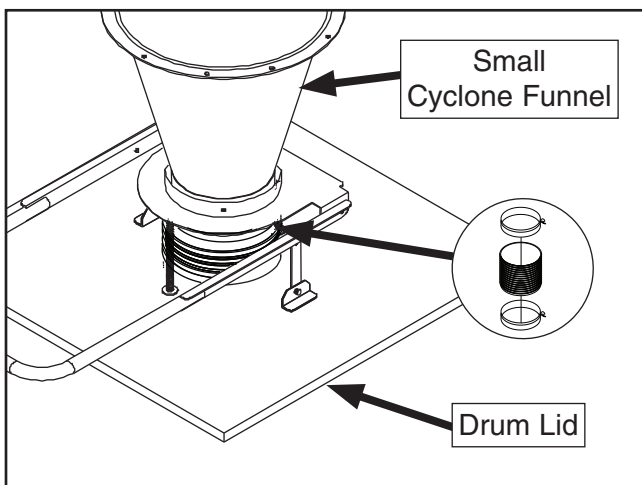

Figure 40. Cyclone funnel connected to drum lid with flexible hose (stand and drum removed for clarity).
56. Connect drum lid to small cyclone funnel with 9" clear flexible duct and (2) 9" hose clamps (see **Figure 40**).